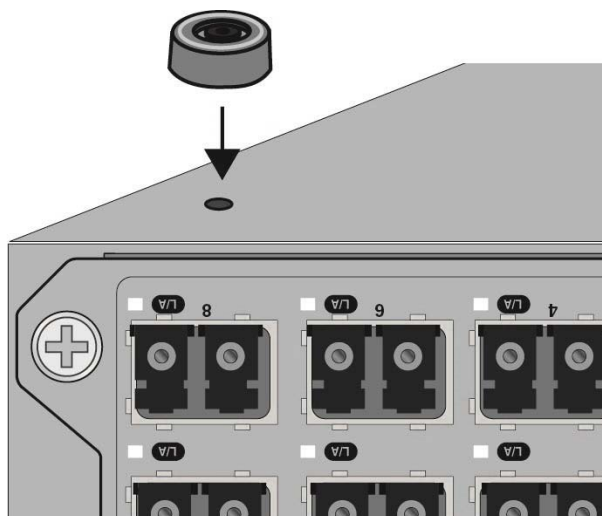

Figure 41. Placing the Bumper Foot on a Base Corner Hole
- b. Place the bumper foot on one of the corner holes in the base of the switch. Refer to Figure 41.